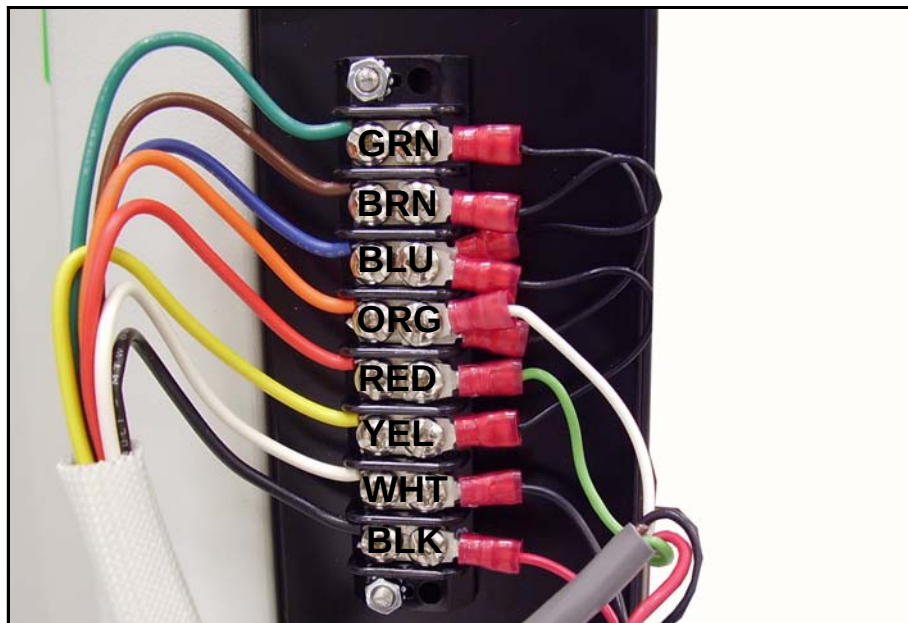

Figure 5-22. Wiring Diagram
- 44 Rewire terminal as shown in Figure 5-22.